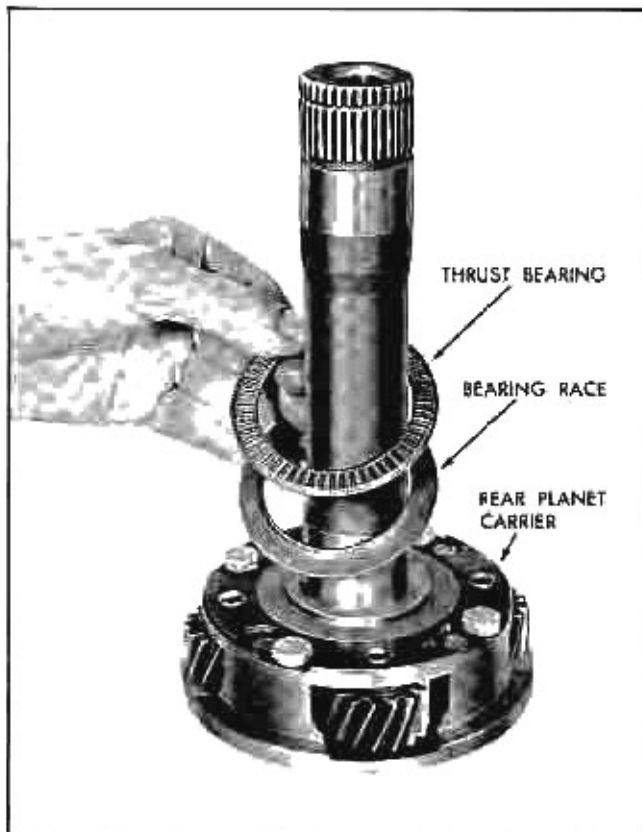

Fig. 113 Installing Thrust Bearing on Rear Planet Carrier
5. Install bearing race (flange up) and bearing on rear planet carrier. Retain with petrolatum (Fig. 113)